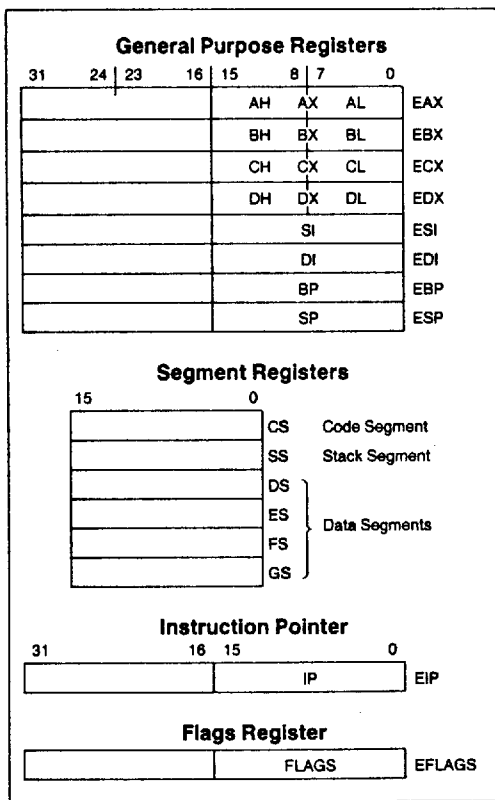

Figure 2.1. Base Architecture Registers
Figure 2.1 shows the Intel486 SX microprocessor/ Intel OverDrive Processor base architecture registers. The contents of these registers are task-specific and are automatically loaded with a new context upon a task switch operation.
The eight 32-bit general purpose registers are shown in Figure 2.1. These registers hold data or address quantities. The general purpose registers can support data operands of 1, 8, 16 and 32 bits, and bit fields of 1 to 32 bits. Address operands of 16 and 32 bits are supported. The 32-bit registers are named EAX, EBX, ECX, EDX, ESI, EDI, EBP and ESP.
The instruction pointer, shown in Figure 2.1, is a 32-bit register named EIP. EIP holds the offset of the next instruction to be executed. The offset is always relative to the base of the code segment (CS). The lower 16 bits (bits 0-15) of the EIP contain the 16-bit instruction pointer named IP, which is used for 16-bit addressing.